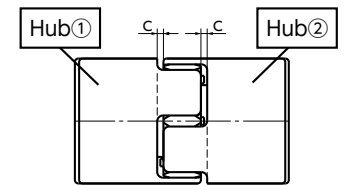

Fig. 3 Clearance C between hubs
To prevent the hubs from interfering with each other during operation, a clearance (dimension C) is required between the tip of hub ① and opposing hub ②. Refer to Fig. 3 for the position. Make sure that a clearance of dimension C between the hubs is provided while the coupling is mounted. Refer to Table 3 for dimension C.